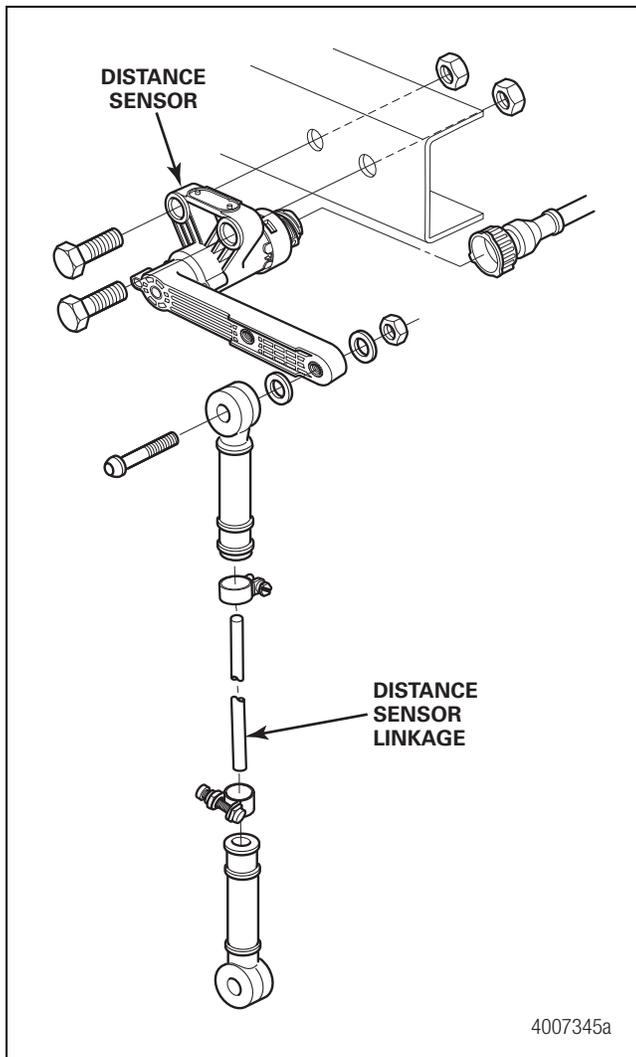

Figure 6.9
1. Disconnect the cable attached to the Distance Sensor. Figure 6.9.
1. Install the Distance Sensor to the cross member or bracket near the center of the trailer with the two bolts previously used to mount the replaced sensor. Figure 6.9.